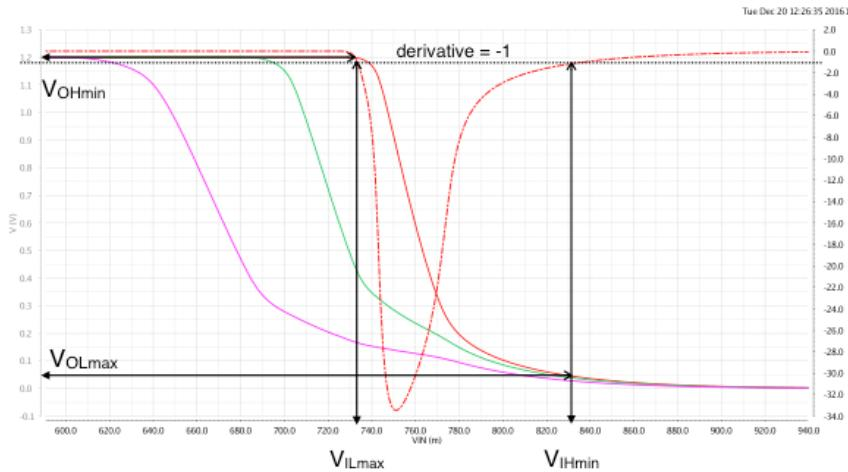

Figure 12.8: VTC with voltages necessary to calculate noise margins for output X indicated.
b) In Figure 12.8 below the two points that define the four voltages are shown. The resulting values are: For high level $MNH = V_{OH\min} - V_{IH\min} = 1.19 \text{ V} - 0.832 \text{ V} = 0.358 \text{ V}$. For low level $MNL = V_{IL\max} - V_{OL\max} = 0.735 \text{ V} - 0.05 \text{ V} = 0.73 \text{ V}$. As could be expected from the VTC the noise margins are not very equal so this inverter is not that well designed.